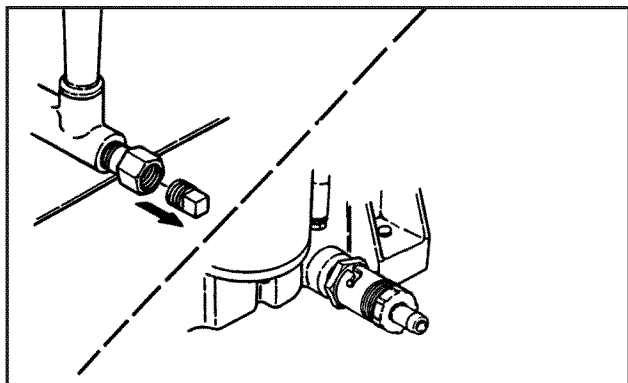

FIGURE 15
4. Place an appropriate container under the oil drain (Figure 15). Remove or open the oil drain plug and allow oil to drain completely.